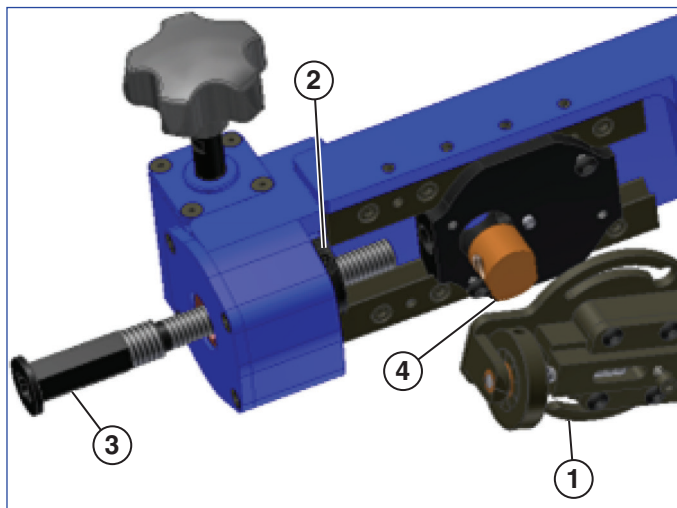

Figure 6
4. Two feed screws are provided with the QuickFace. If the surface finish is 125 – 250 microinches (3,18 – 6,35 mm), use the ½ – 11 feed screw. If the surface finish desired is 60 – 100 microinches (1,52 – 2,54 mm), use the ½ – 20 feed screw. See Figure 6 .